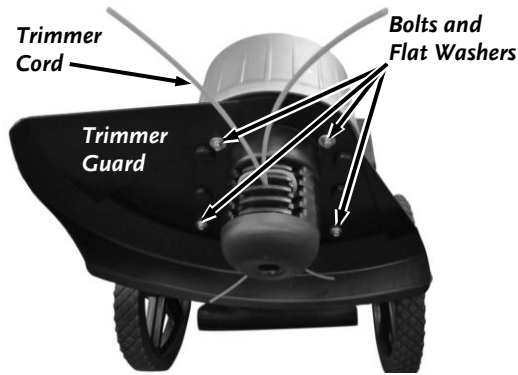

Figure 20
3. Remove the four Trimmer Guard Bolts and Flat Washers with a 3/8" Wrench. Remove the Trimmer Guard (**Figure 20**).
8. Position the Trimmer Guard and secure with the four Bolts and Flat Washers using the 3/8" Wrench (**Figure 20**).